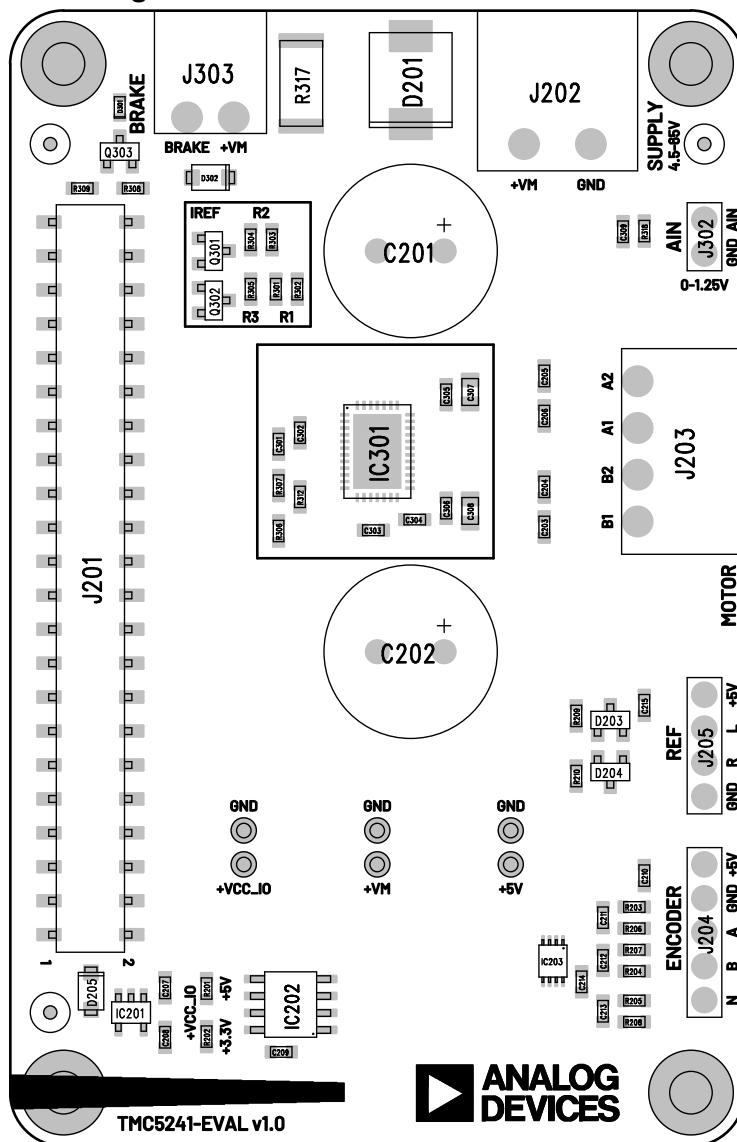

Figure 5. TMC5241-EVAL Component Placement and Silkscreen
2. Plug the selected motor to connector J203, which is labelled as **MOTOR** on the board's silkscreen (Figure 5). Observe the correct order of the A1, A2, B1, and B2 motor phases.
3. (Optional) Plug the ABN encoder to pin header J204, which is labelled as **ENCODER** on the board's silkscreen (Figure 5).
5. Plug the power supply cable to connector J202, which is labelled as **SUPPLY** on the board's silkscreen (Figure 5). Make sure the power supply is off before connecting it to the board and the polarity is correct.
The TMC5241-EVAL has one power, one motor connector, and three pin headers. These can be found in the component placement drawing in Figure 5 and are described in detail in Table 2.
In addition to the connectors shown in Table 2, some unpopulated THM test points are available in the TMC5241-EVAL. See the component placement drawing in Figure 5. The additional connectors are described in Table 3.